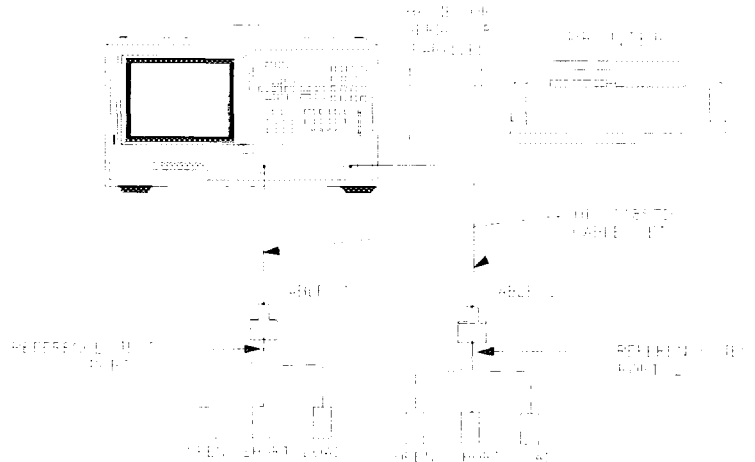

Figure 3-1. System Verification Test Setup
- 1 Connect the equipment as shown in Figure 3-1. Let the HP 8702D warm up for one hour.
- 5** Connect the “open” end of the open/short combination (supplied in the calibration kit) to reference test port 1, as shown in Figure 3-1.
- 11** When the HP 8702D finishes measuring the standard, connect the “open” end of the open/short combination to reference test port 2, as shown in Figure 3-1.